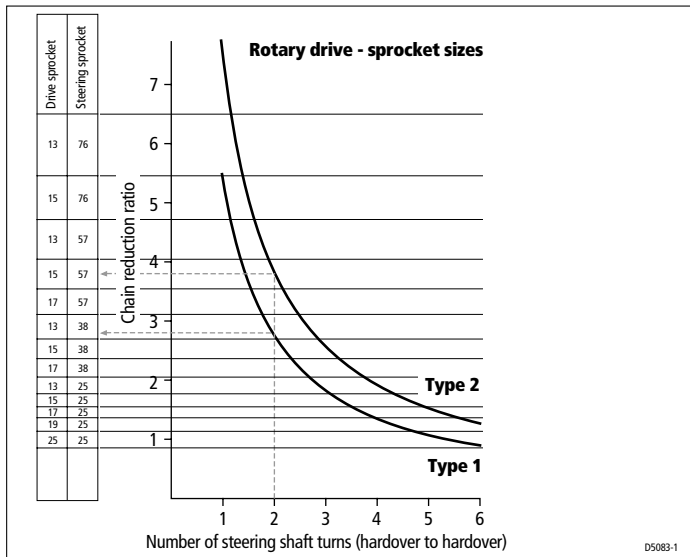

Figure 4: Rotary drive sprocket sizes
- use *Figure 4* to determine the sprocket sizes required at the steering gear shaft (steering sprocket) and at the rotary drive (drive sprocket) by:
- for example, if the steering shaft turns twice when the rudder moves from hardover to hardover you will need (as indicated by the dotted lines on *Figure 4*):
**Note:** *The sprocket sizes in Figure 4 provide good steering performance for most boats. If you think your boat may have unusual steering characteristics, contact Raymarine's Technical Services Call Center or an Authorized Service Representative for advice.*